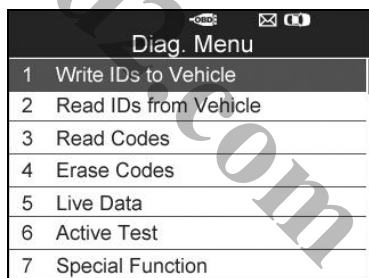

Figure 4.22
- 1) From the TPMS Diagnosis Menu, use the **UP/DOWN** scroll button to select the **Write IDs to Vehicle**, and press **Y** button. (Figure 4.22)
- 1) From the TPMS Diagnosis Menu, use the **UP/DOWN** scroll button to select the **Read IDs from Vehicle**, and press **Y** button. (Figure 4.22)
- 1) From the TPMS Diagnosis Menu, use the **UP/DOWN** scroll button to select the **Read Codes**, and press **Y** button. (Figure 4.22)
- 1) From the TPMS Diagnosis Menu, use the **UP/DOWN** scroll button to select the **Erase Codes**, and press **Y** button. (Figure 4.22)
- 1) From the TPMS Diagnosis Menu, use the **UP/DOWN** scroll button to select **Live Data**, and press **Y** button. (Figure 4.22)
- 1) From the TPMS Diagnosis Menu, use the **UP/DOWN** scroll button to select **Active Test**, and press **Y** button. (Figure 4.22)